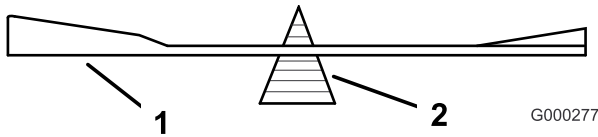

Figure 67
2. Check the balance of the blade by putting it on a blade balancer (Figure 67). If the blade stays in a horizontal position, the blade is balanced and can be used. If the blade is not balanced, file some metal off the end of the sail area only (Figure 67). Repeat this procedure until the blade is balanced.